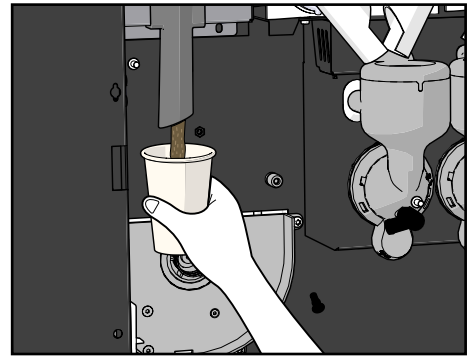

Figure 13.
6. Place a small container or large cup underneath the grinder outlet (see Figure 13) and press the scale button to start the grinder. Repeat this twice.